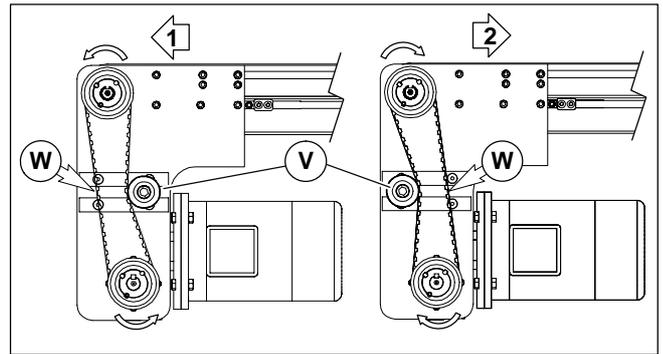

Figure 10
- Depending on conveyor belt travel (direction 1 or 2), locate timing belt tensioner (V of Figure 10) as shown. Tension timing belt to obtain 3 mm deflection for 3 kilograms of force at timing belt mid-point (W). Tighten tensioner screw to 12 Nm.
3. Depending on conveyor belt travel (direction 1 or 2), locate timing belt tensioner (V of Figure 10) as shown. Tension timing belt to obtain 3 mm deflection for 3 kilograms of force at timing belt mid-point (W). Tighten tensioner screw to 12 Nm.
5. Depending on conveyor belt travel (direction 1 or 2), locate timing belt tensioner (V of Figure 10) as shown. Tension timing belt to obtain 3 mm deflection for 3 kilograms of force at timing belt mid-point (W). Tighten tensioner screw to 12 Nm.